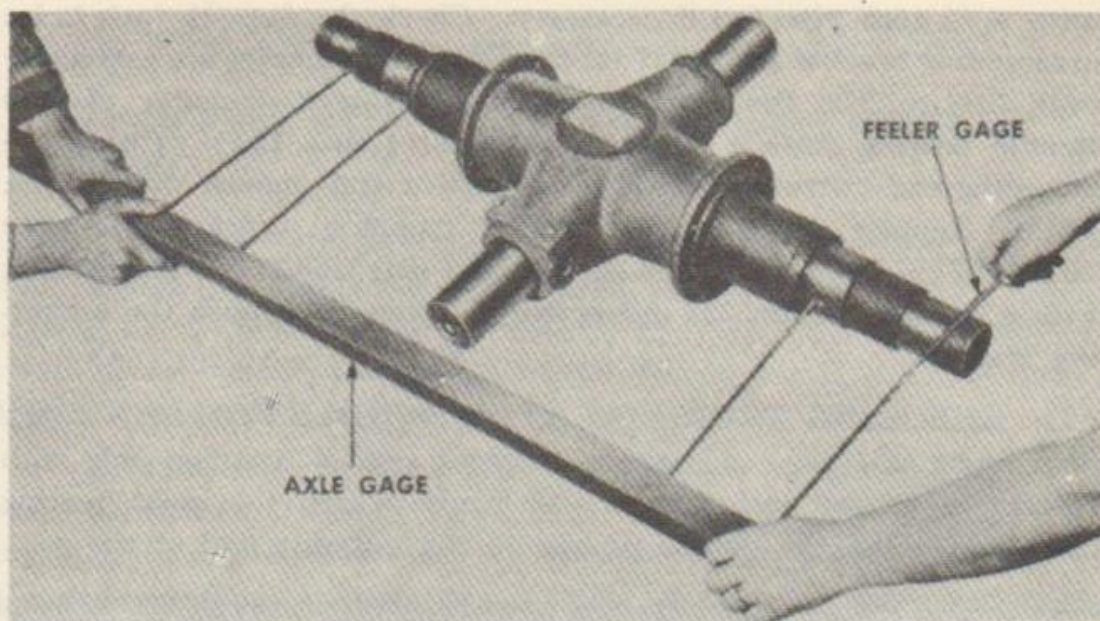

FIGURE 82. CHECKING TRUNNION AXLE FOR BEND
(1) CHECKING TRUNNION AXLE SPINDLE FOR BEND (fig. 82). Place axle gage in position on front side of trunnion axle with the single-pronged end of gage held firmly against the inner bearing surface. Adjust the double prongs on the opposite end of the gage